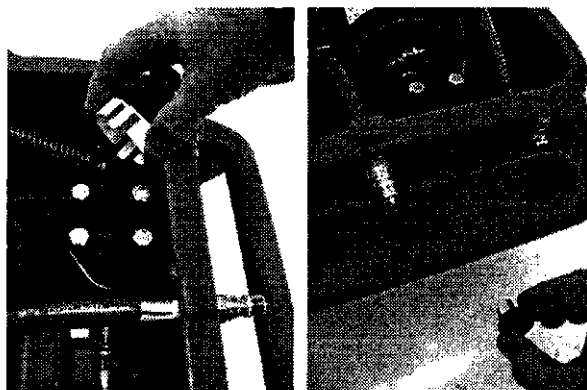

FIG. 15
- b. Remove safety cover from pump by pinching tabs and pulling straight off. You will also need to remove black 1-inch plug from front of chassis (Figure 15).